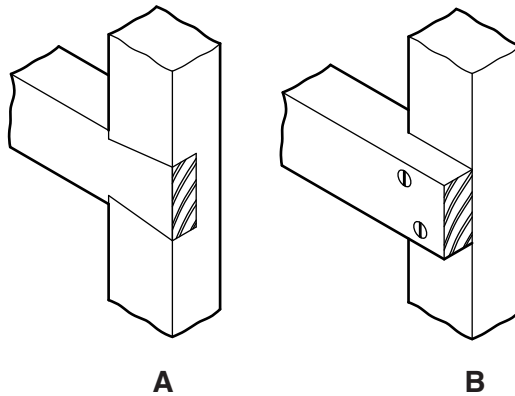

Fig. 10
- (iii) Two methods of joining timber are shown in Fig. 10.